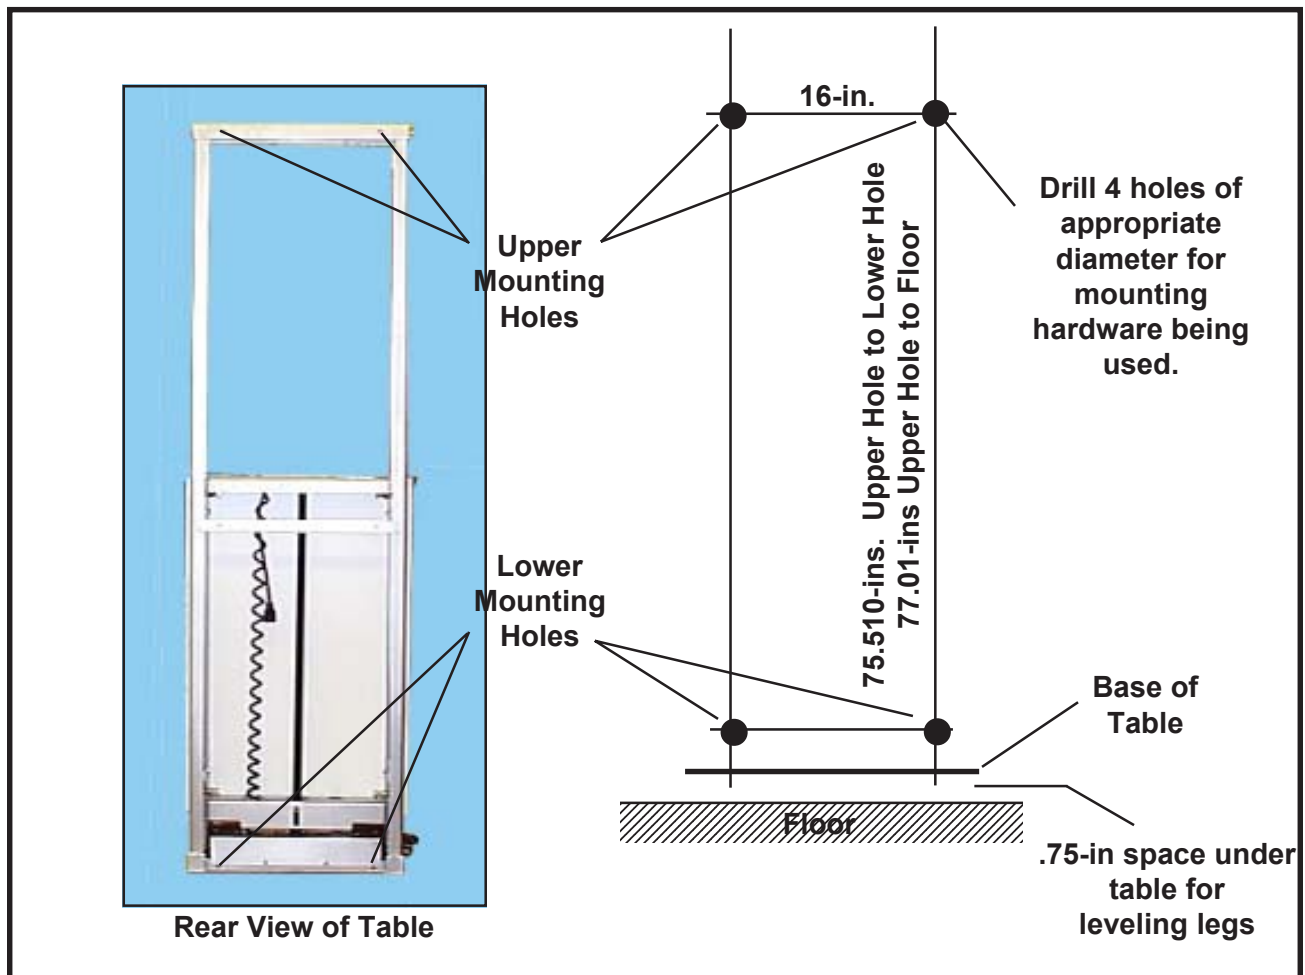

Figure 10. Wall-Mount Holes and Dimensions
3. Refer to Figure 10 and drill the four mounting holes suitable for the type of fastener you will be using.